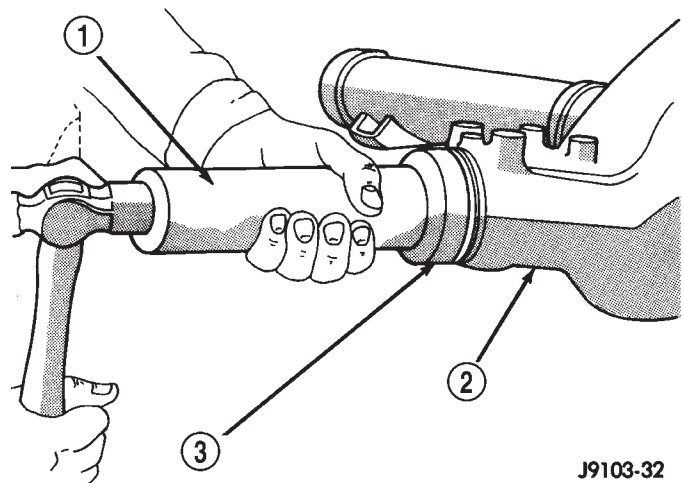

Fig. 14 8 1/4 Axle Pinion Seal Installation
(4) Apply a light coating of gear lubricant on the lip of pinion seal.
(5) Install the new pinion seal with Installer C-4076-B and Handle C-4735-1 (Fig. 14).